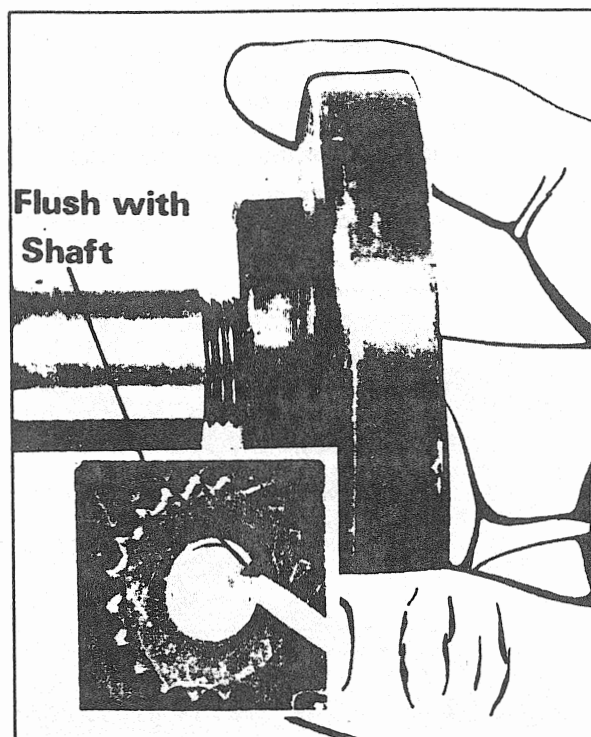

FIGURE 30
- Secure the rear mount bracket to the side bracket with two (2) bolts.
- Securely hand tighten the turbine flange to the impeller shaft (fig. 30).